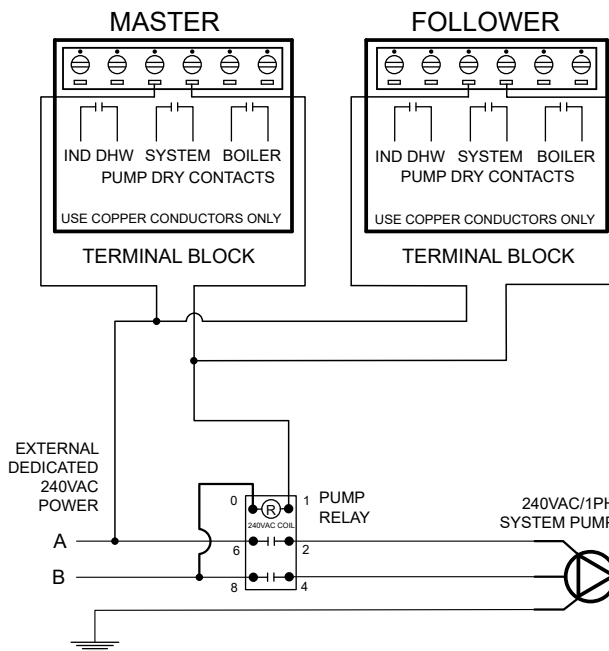

Figure 39. XVersL Cascade System Pumps (240VAC Shown)
1. On the boiler designated as the Master, connect the system pump enable wiring to the field-wiring terminal block inside the junction box. The connections are dry contacts rated for pilot duty only (5A maximum) See **Figure 39** for details.